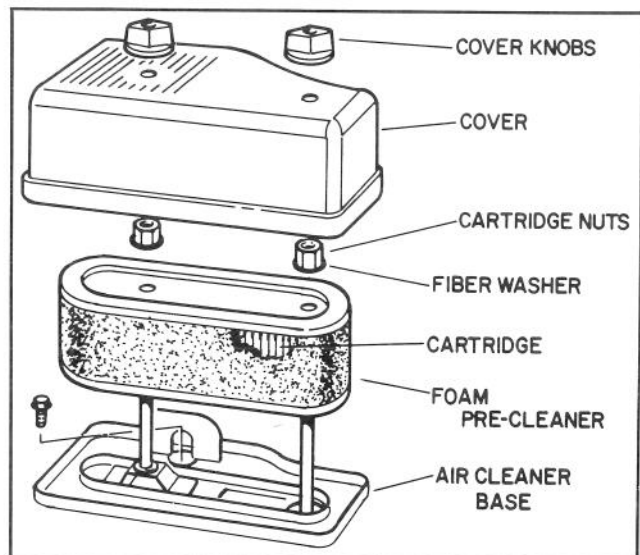

Figure 14
1. Remove (2) knobs securing air cleaner cover in place and remove cover (Fig. 14).